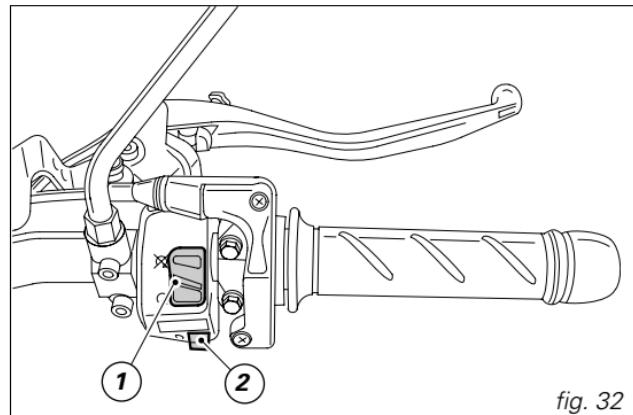

fig. 32
2) Check that the stop switch (1, fig. 32) is positioned to  (**RUN**), then press the starter button (2). This model features servo-assisted starting. Press and immediately release the start button (2) to use the servo-assisted engine starting function. When you press button (2) the starter motor runs automatically for a period of time that varies according to the engine temperature.